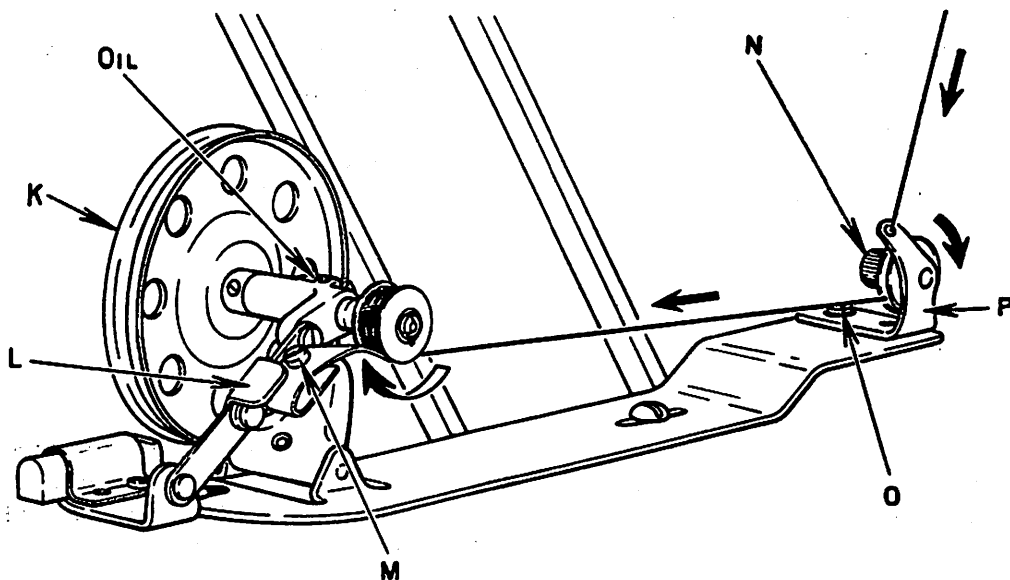

Fig. 8
Fasten bobbin winder to table with its driving pulley in front of the machine belt (see Fig. 8), so that bobbin winder driving pulley (K) will make firm contact with machine belt when thumb latch (L) is pressed down and pulley will be released from contact with belt when sufficient thread has been wound upon the bobbin.
Place bobbin on spindle, pushing it on as far as it will go and pass thread through threading points, as shown in Fig. 8.
Wind end of thread around the bobbin a few times. Press down on thumb latch (L), pushing driving pulley (K) over against belt, as shown in Fig. 8. Start machine.
When winding a bobbin with fine thread, a light tension should be used. Adjust the knurled nut (N, Fig. 8), to regulate the tension.
Note: Occasionally apply a few drops of oil to the oil well, shown in Fig. 8, on top of the bobbin winder frame.